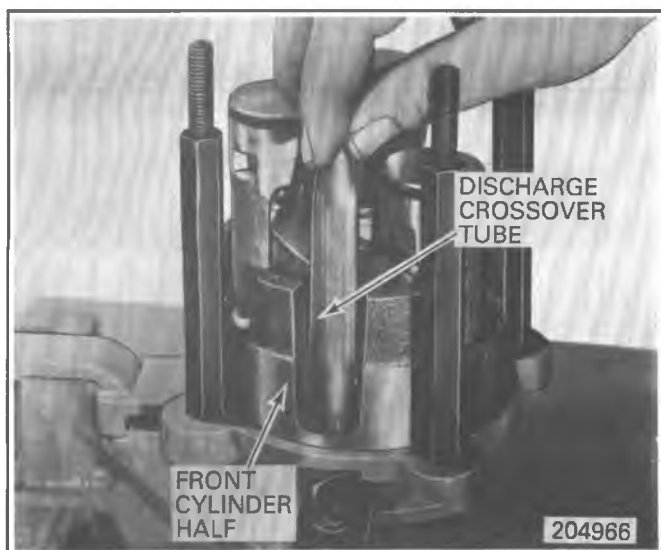

Fig. 1D-54 Installing A-6 Discharge Cross-over Tube
10. Replace the Suction Cross-Over Cover (Fig. 1D-56). Compress the cover as shown to start it into the slot, and then press or carefully tap it in until flush on both ends.